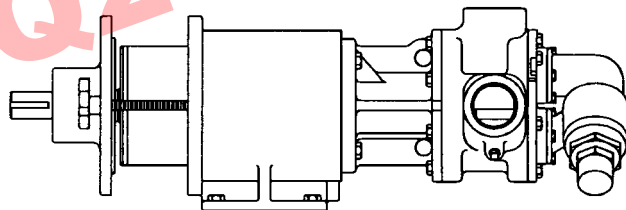

FIGURE 18
4. The outer magnet should be installed into the bearing housing, if not refer to Disassembly & Assembly of Bearing Housing. Install hand knobs so that 4\" of threads are projecting below housing. Support bearing housing from overhead and gently position magnet over canister so the magnet assemblies start to engage. Evenly back out the hand knobs. See Figure 18. the bearing housing move toward the bracket as the hand knobs are removed.